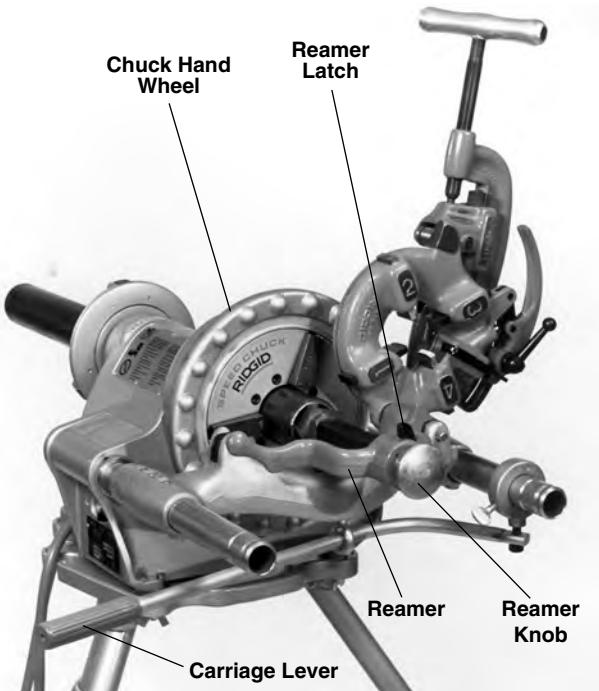

Figure 10 – Reaming Pipe with No. 341 Reamer
1. Move reamer arm down into reaming position (Figure 10).